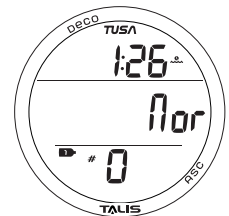

Fig. 2 - NORM MODE SURFACE MAIN
- >> NORM (Fig. 2) is used for Air and Nitrox dives.